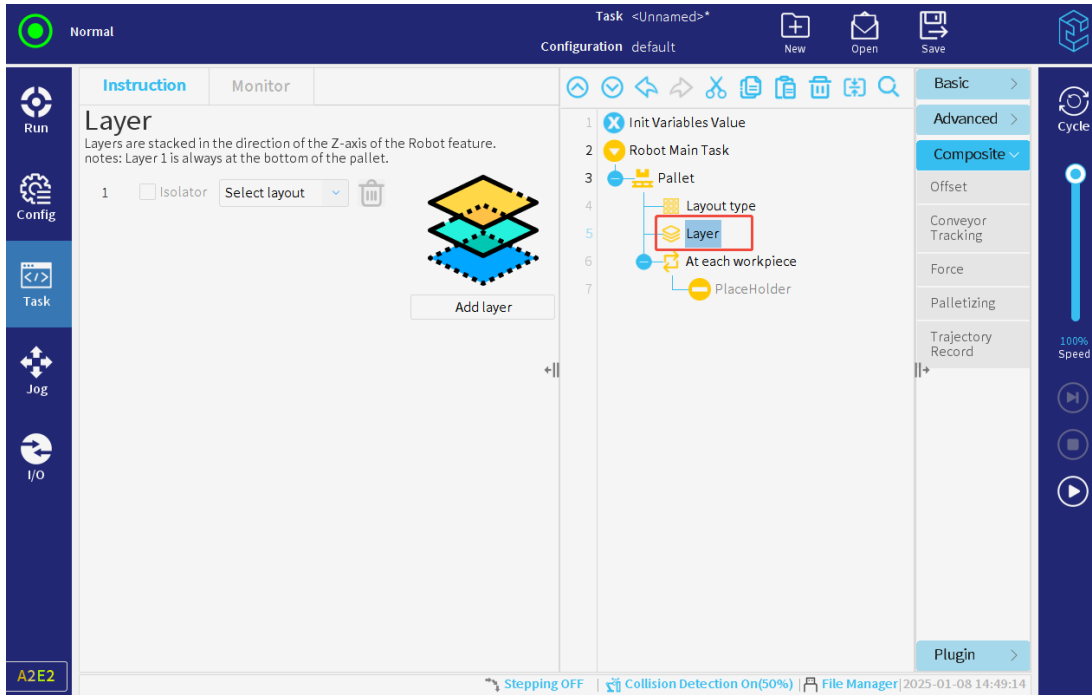

Figure 3-124 : Set layer
4. Click the "Layer" node in the task tree and click "Add layer" to set the number of layers of the pallet, the layout type of each layer, and whether to include the isolation layer, as shown in **Figure 3-124** .